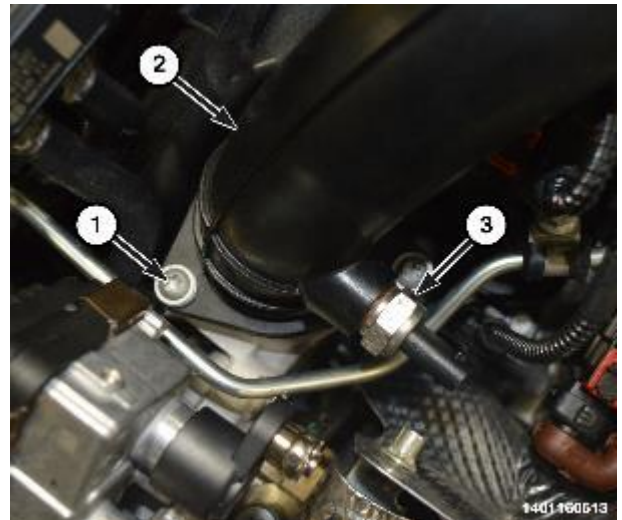

Figure 61 – Turbo Outlet Elbow
- 110. Using a **NEW** gasket, install the turbocharger outlet elbow (2) and securely tighten the screws (1) (Figure 61).